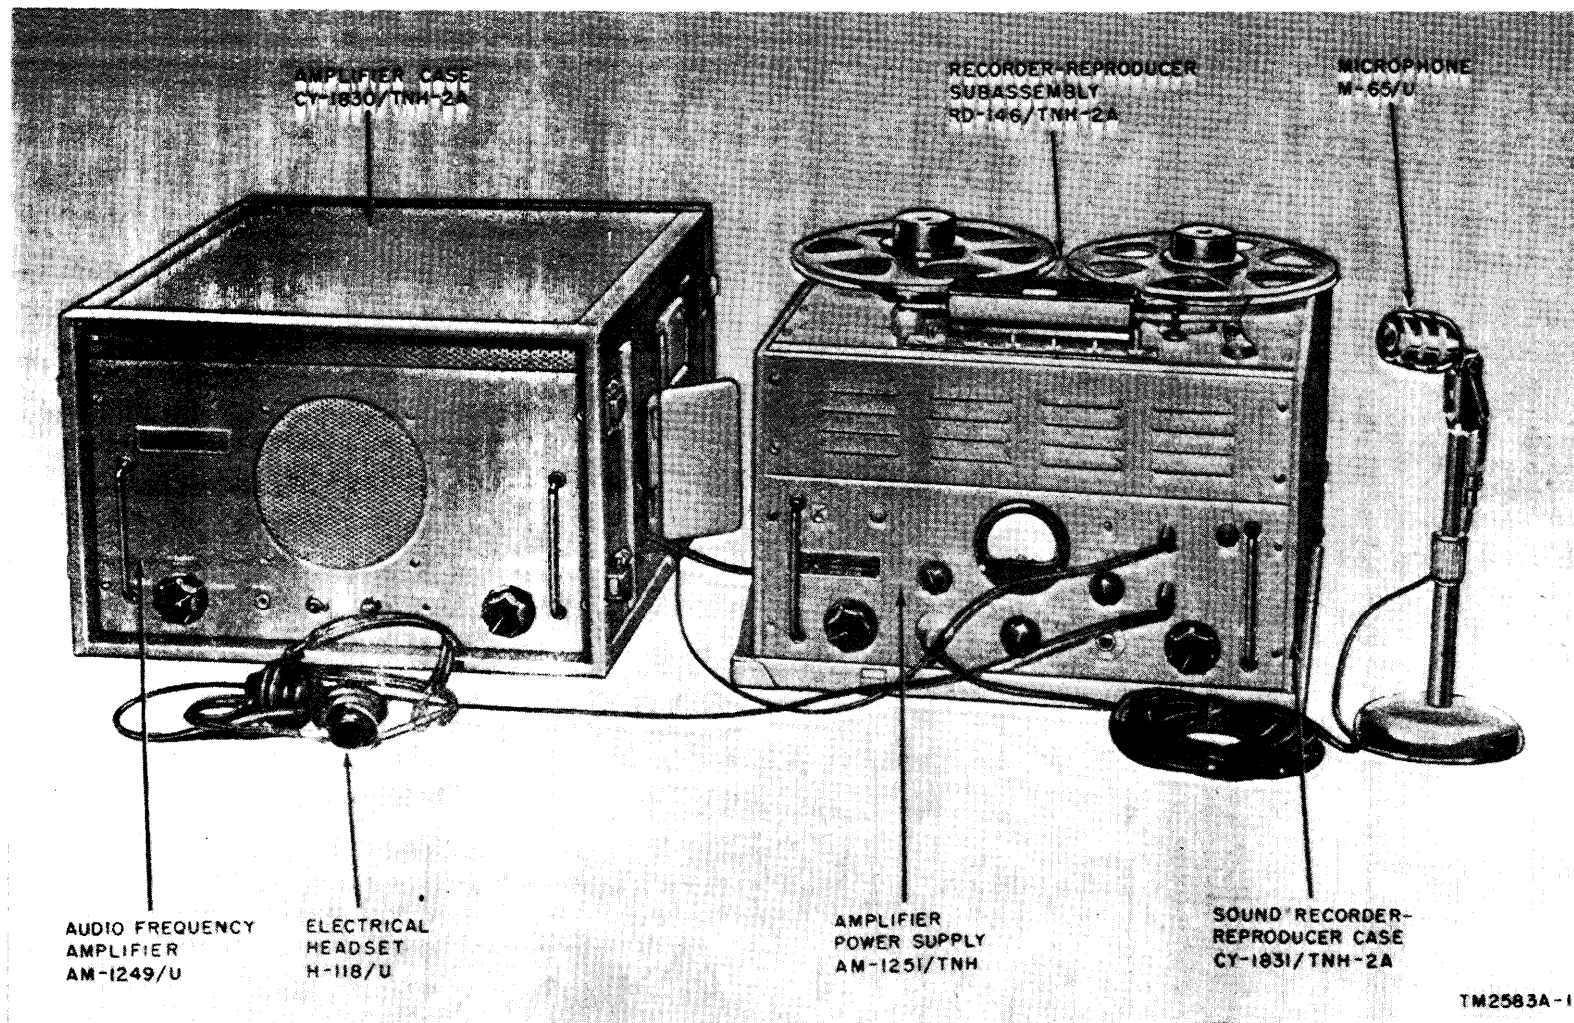

Figure 1. Sound Recorder-Reproducer Set AN/TNH-2A, set up for operation
*a.* This manual contains information on the operation, theory and maintenance of Sound Recorder-Reproducer Set AN/TNH-2A (fig. 1).
Sound Recorder-Reproducer Set AN/TNH-2A (fig. 1) is a self-contained portable electro-mechanical half-track magnetic tape recorder and reproducer for making and reproducing sound recordings. The sound is recorded on and reproduced from a 2,400-foot magnetic tape moving at a rate of either 7 ½ inches per second (ips) or 15 ips.
#### 5. Table of Components (fig. 1 through 4)
b. *Amplifier-Power Supply AM-1251/TNH* (fig. 1). This unit contains the recording amplifier, the reproducer amplifier, the bias erase-oscillator, and a power supply. The front panel mounts the controls for operating these circuits, as well as a record level indicator, a volume unit (vu) meter, and the necessary connectors and jacks for interconnecting the components. The rear panel of this unit mounts the fuses and connectors for alternating current (ac) input power. The rear panel is accessible after opening the access door at the rear of Sound Recorder-Reproducer Case CY-1831/TNH-2A.
c. *Recorder-Reproducer Subassembly RD-146/TNH-2A* (fig. 1). This subassembly is an electromechanical unit which contains the tape-transport mechanism, the sound head assembly, and the operating controls mounted on the front panel. The under portion of the panel mounts the motors, the electronic components, and the connectors for power and signals.
e. *Audio Frequency Amplifier AM-1249/U* (fig. 1). This unit contains a power amplifier and a power supply circuit. The front panel mounts the loudspeaker, a level control, a selector switch, a pilot light, fuse, and the necessary output jacks. The rear panel of the unit mounts the power connector and signal input connector. The rear panel is accessible after opening the access door at the side of Amplifier Case CY-1830/TNH-2A.